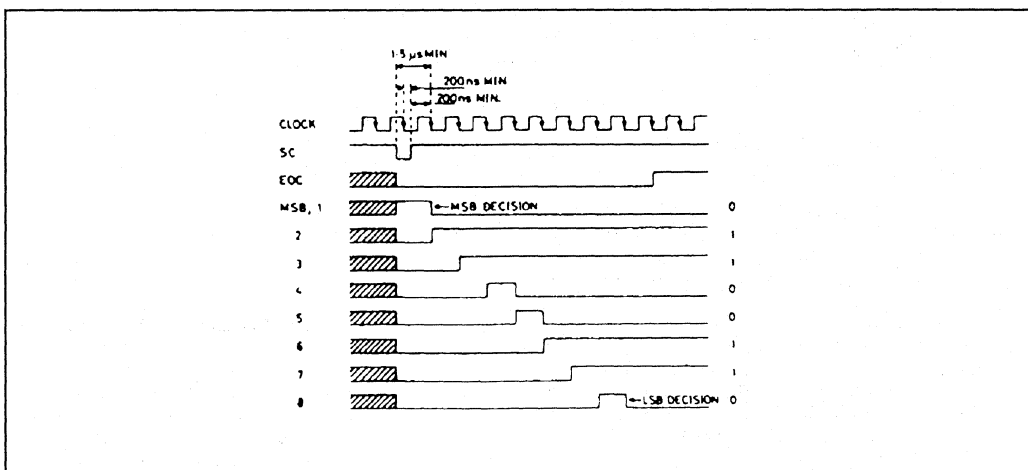

Fig.3 Timing diagram
Operation of the ZN427 is best described with reference to the timing diagram, Fig.3. Conversion is initiated by a START CONVERT (SC) pulse which can be applied asynchronously with respect to the ZN427 clock, providing the following criteria are met.